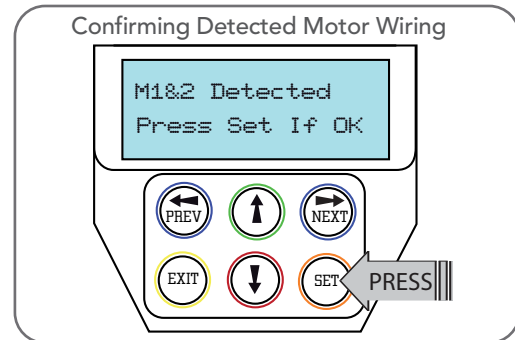

Fig 8.3
- DCB-05V2 will now automatically detect if one or two motor are connected. If the correct number is displayed then press SET to confirm. Otherwise press EXIT and check the wiring (**Fig. 8.3**).